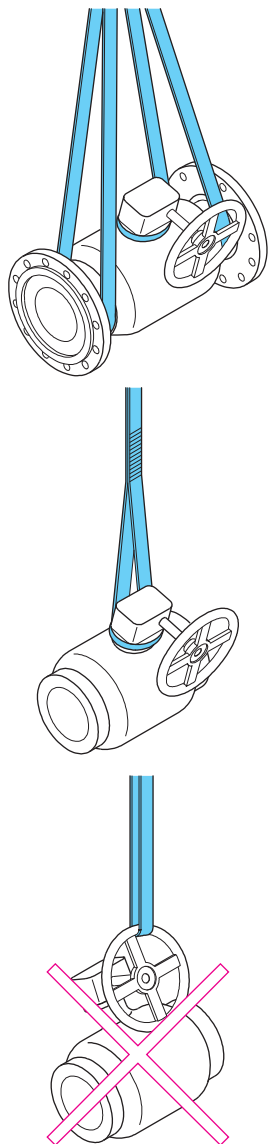

Figure 2. Lifting the valve
Use lifting ropes when lifting the large size valves. It is forbidden to lift the valve by its actuator or stem (see Figure 2).
- The valve or valve assembly must not be lifted from the actuator. If the valve is equipped with lifting lugs, use them (see Figure 2). Dropping or incorrect lifting of the valve can result in personal injury or equipment damage.
- Use one of the allowed lifting methods shown in Figure 2.